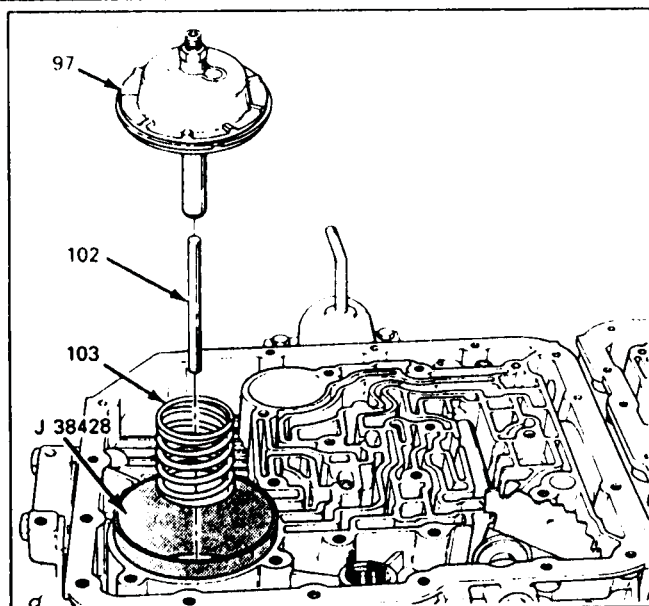

Figure 124
1. Rotate transmission to a horizontal position, with pan side up, as shown in Figure 124.
4. Place servo seal protector J-38428 in case, as shown in Figure 124.
6. Install servo return spring into case as shown in Figure 124.
7. Install servo piston assembly into the seal protector (See Figure 124).